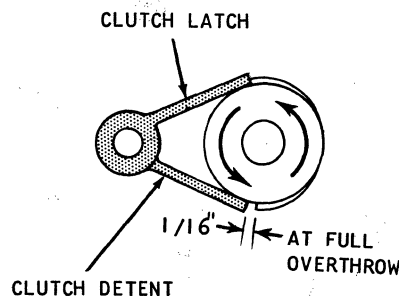

Figure 3-6. File Feed Clutch Adjustments
2. Hold split collar in this position and rotate detent gear to $1/16''$ past detent position. Tighten screws in split collar. This adjustment should result in $1/16''$ overthrow. See Figure 3-6.